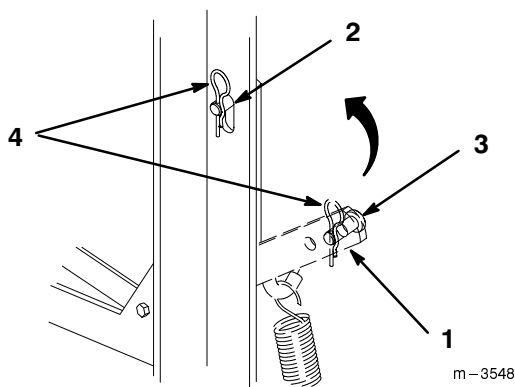

Figure 40
2. Remove hairpin cotter and clevis pin from idler arm (Fig. 40).
3. Pull up on the spring loaded idler arm, behind blower on lefthand side of unit, to relax pressure on blower belt (Fig. 40).